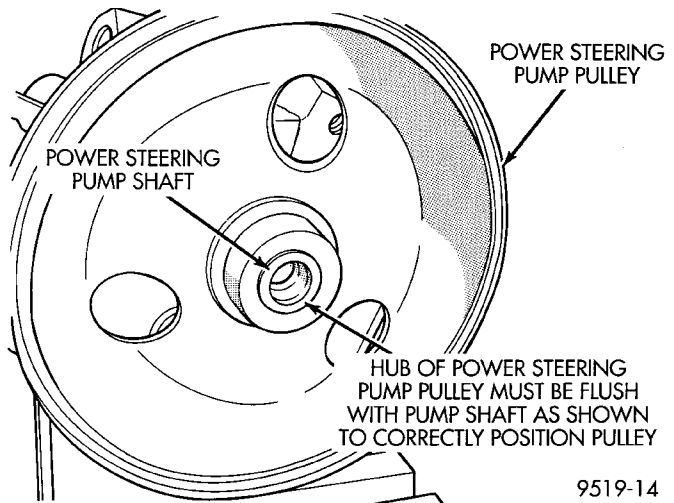

Fig. 38 Correctly Installed Power Steering Pump Pulley
(2) Ensuring that special tool and pulley remain aligned with pump shaft, force pulley onto power steering pump shaft until flush with the end of the shaft (Fig. 38). **When pulley is flush with shaft tool will no longer be able to be turned.**